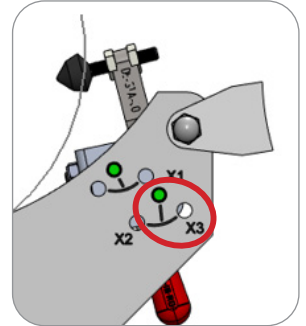

Figure 4A
9. Ensure universal stand is configured for X-3. (Figure 4A) Align mount insert\alignment tab on top in center, basket down.